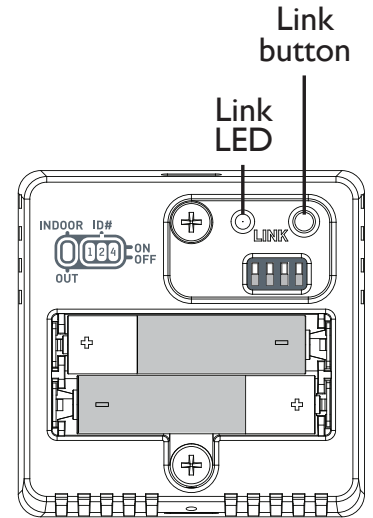

fig. 3
3. Install 2AAA batteries with the polarity as indicated on the ACC-TSENFIMINI housing. (see fig. 3).
4. Press and hold the Link button (see fig. 3) until the Link LED starts to flash.